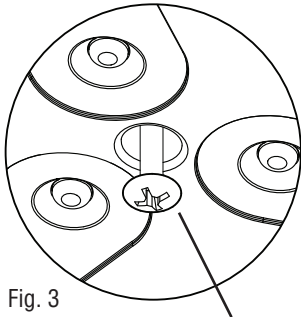

Fig. 3
3. Drive center installation screw into mounting surface until fixture is snug. Do not torque completely, the screw will be final tightened in a later step. If screws are difficult to install, remove screws, mark holes, and drill 1/16" maximum pilot holes. (See Fig. 3)